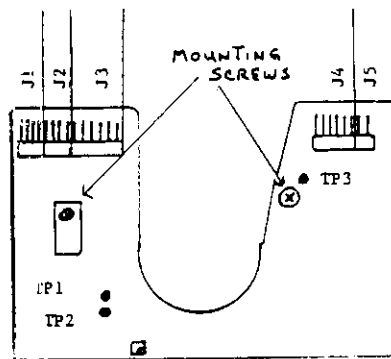

FIGURE 6-2
3. Connect all cable plugs (Figure 6-2).